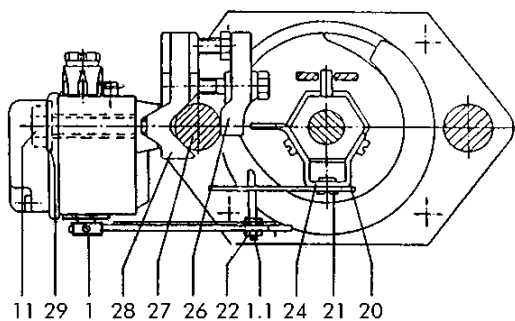

Fig. 4 · Attachment to valve with rod-type yoke
2.1.2 Attachment to valves with rod-type yoke (Fig. 4)